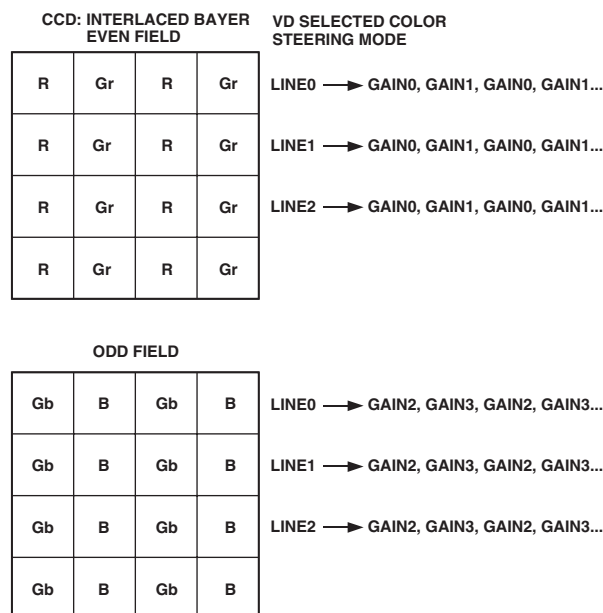
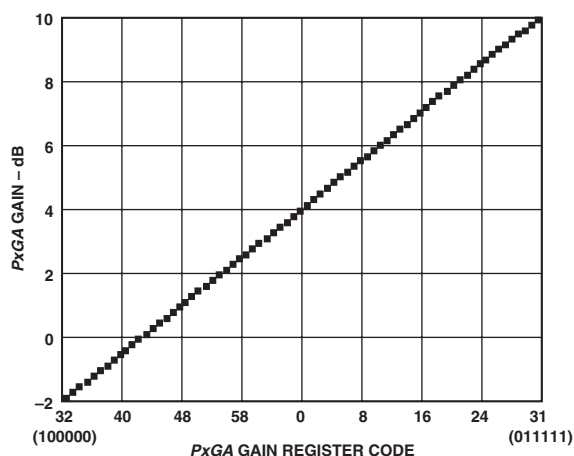

Figure 18b. CCD Color Filter Example: Interlaced
Figure 19. PxGA Gain Curve
The same Bayer pattern can also be interlaced, and the VD selected mode should be used with this type of CCD (see Figure 18b). The Color Steering performs the proper multiplexing of the R, G, and B gain values (loaded into the PxGA gain registers) and is synchronized by the user with vertical (VD) and horizontal (HD) sync pulses. For more detailed information, see the PxGA Timing section. The PxGA gain for each of the four channels is variable from -2 dB to +10 dB, controlled in 64 steps through the serial interface. The PxGA gain curve is shown in Figure 19.